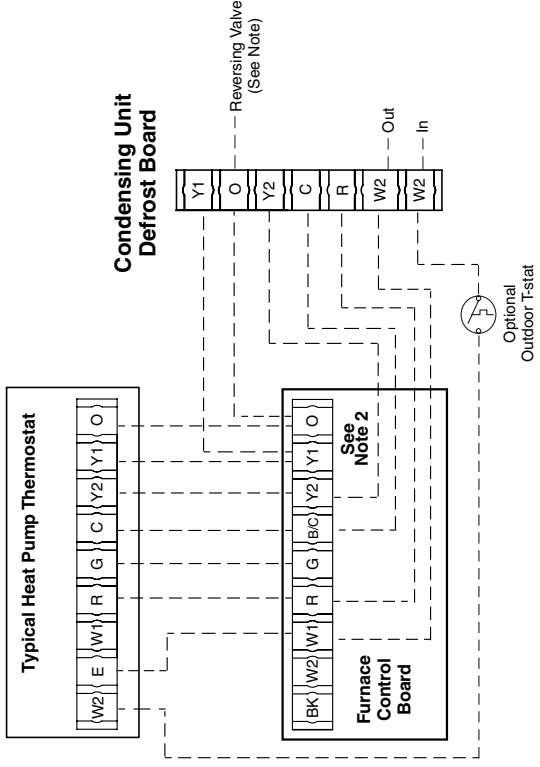

Figure 20. Low Voltage Field Wiring Applications
- The thermostat must be installed according to the instructions supplied by the thermostat manufacturer. Low voltage connections (24 VAC) from the thermostat are wired to the terminal strip on the integrated control in the furnace. Figure 20 \(page 21\) contains the proper connections for heating only (two-wire) and heating/cooling (four-wire) applications. Recommended minimum wire gauge for thermostat wiring is shown in Table 5 \(page 20\).
- ✓ Verify the thermostat wires are securely connected to the correct leads on the circuit board terminal strip for your specific air conditioning or heat pump application. See Figure 20 \(page 21\)